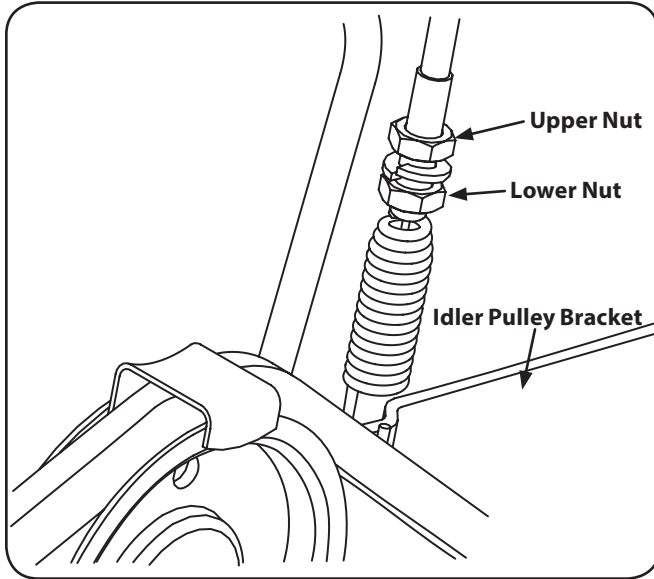

Figure 7-3
2. Locate the spring at the end of the cable. See Figure 7-3.